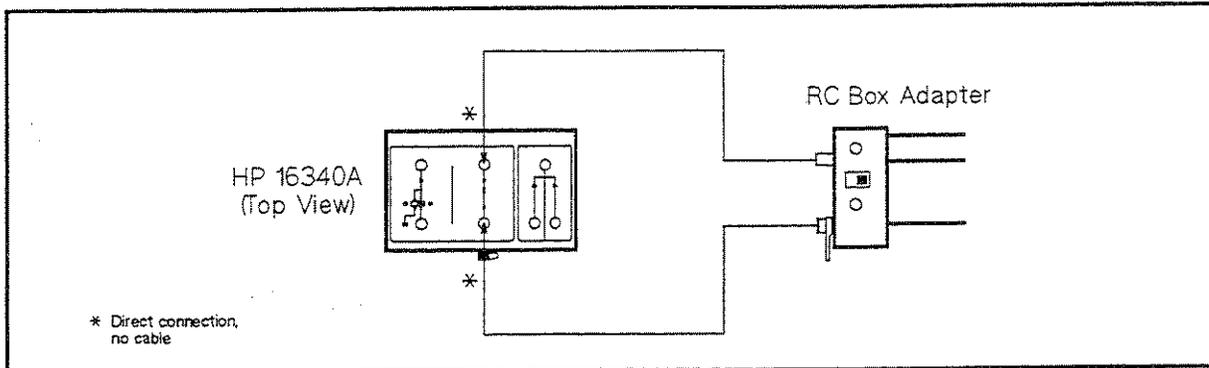

Figure 9-14. Contact Check Functional Test Setup
9. Connect the RC Box to the RC Box Adapter as shown in Figure 9-14.